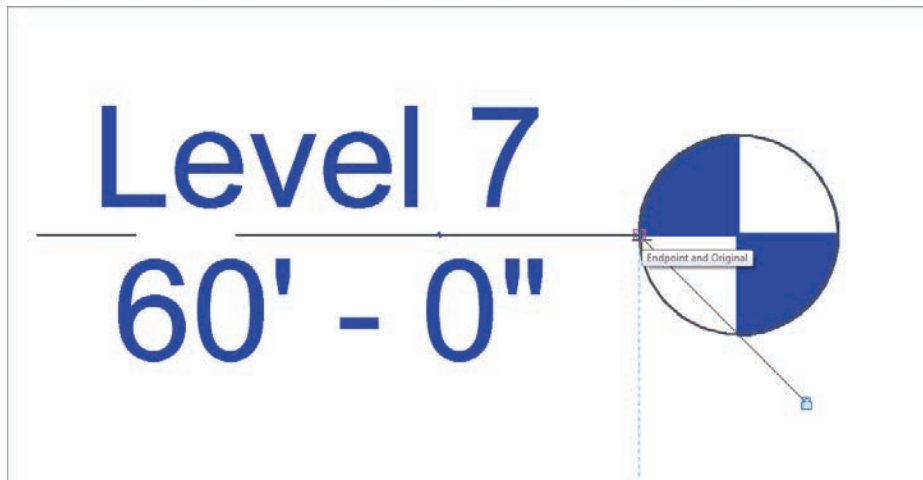

FIGURE 3.9 The selected level
2. Select Level 7 by picking (left-clicking) on either the text or the actual level line itself. This puts the focus on the level line. Notice the text that turns blue. You know that any blue item can be modified (see Figure 3.9).